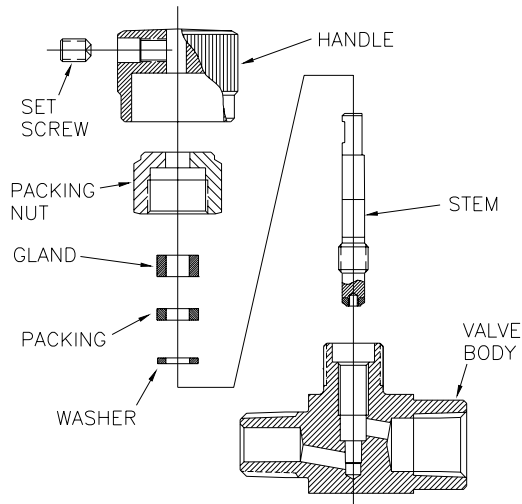

Figure 2: Bar Stock Needle Valve
3. Refer to Figure 2. Remove the Packing nut (located directly under the Handle) by turning counter-clockwise with an 5/8 inch size hex wrench.
- A) PTFE Stem Packing (standard): Refer to Figure 2. Stack the three packing components on the Stem (either "K" or "R") in the following order, with the first item being placed above the Stem threads. Then proceed to Step 8.